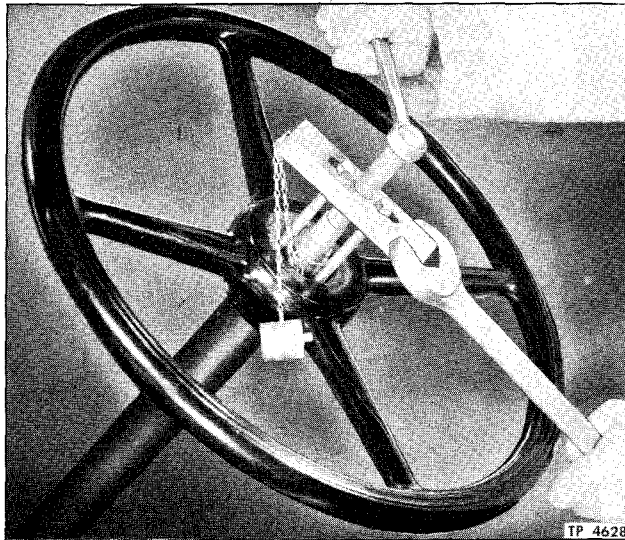

Figure 3—Steering Wheel Removal
2. Remove steering wheel retaining nut; then using steering wheel puller similar to one illustrated in figure 3, pull wheel off upper steering shaft. Remove key from keyway in upper shaft; then remove switch operating plate and bearing spring.